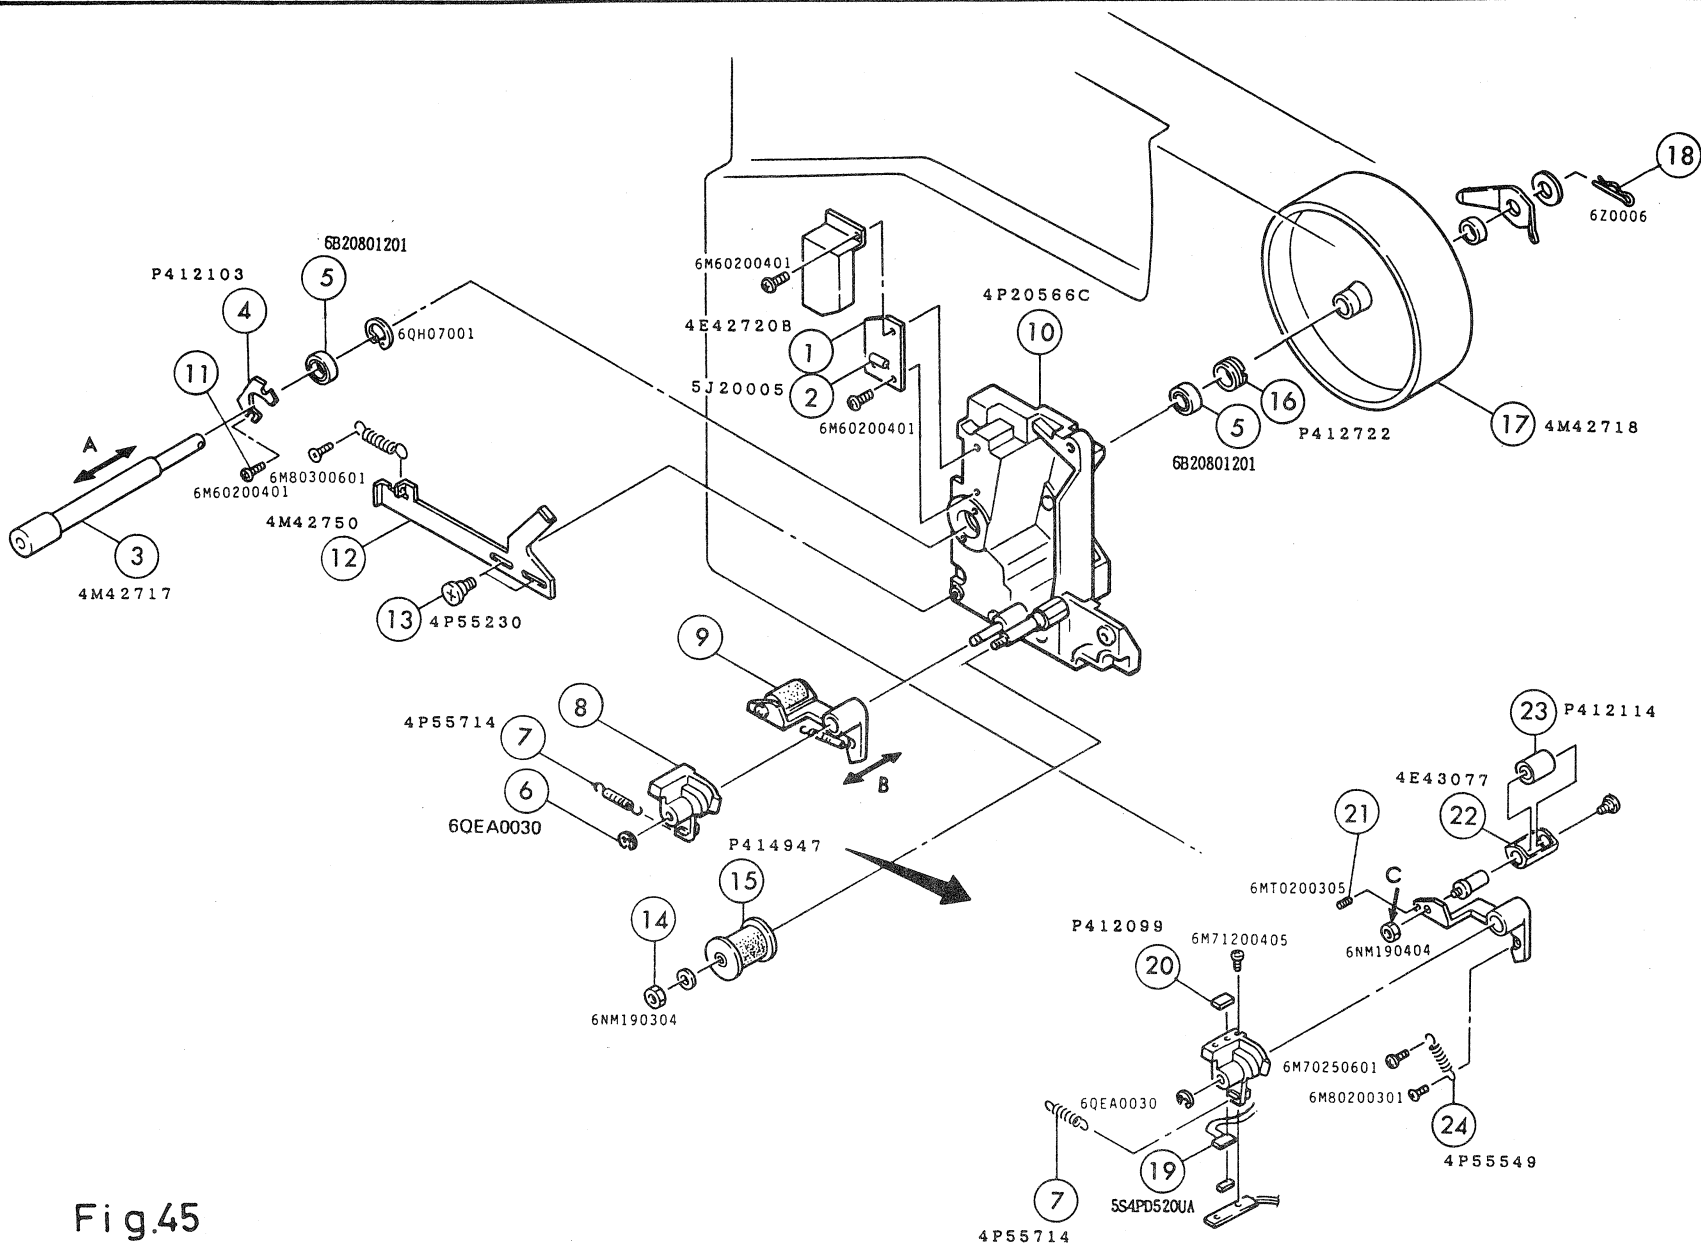

Fig.45
2. Pull out ⑪ by taking out ⑩.
3. Remove ④ by unscrewing ⑪, and then pull out ③.
4. Remove ⑫ by unscrewing 2 pieces of screws ⑬.
5. Remove ⑧ and ⑨ by unscrewing ⑥.
6. For fnther disassembly, refer fo Fig. 45.